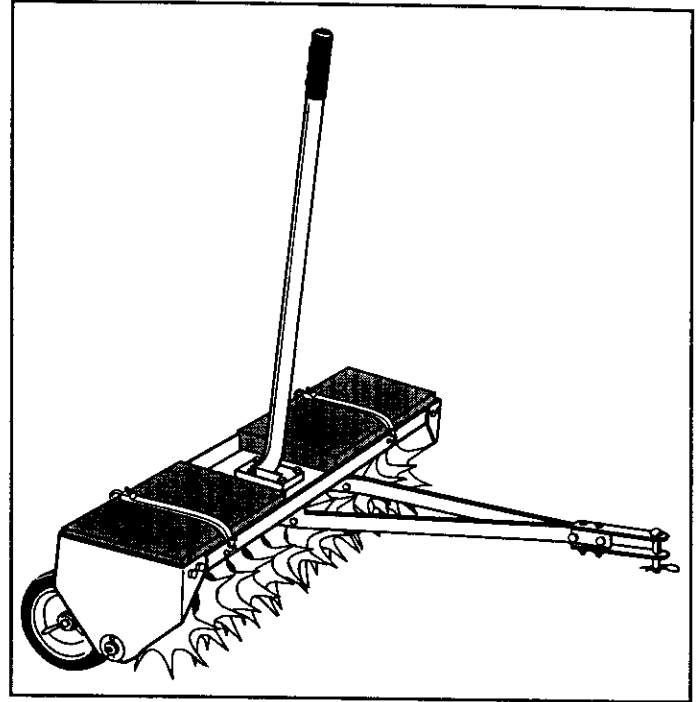

FIGURE 11
- To increase depth of spike point penetration, add weight to the tray as necessary. The tray holds concrete blocks or patio blocks at approximately 35 lbs. each. Secure the weights with straps or wire using the holes in the tray flange. See figure 11.